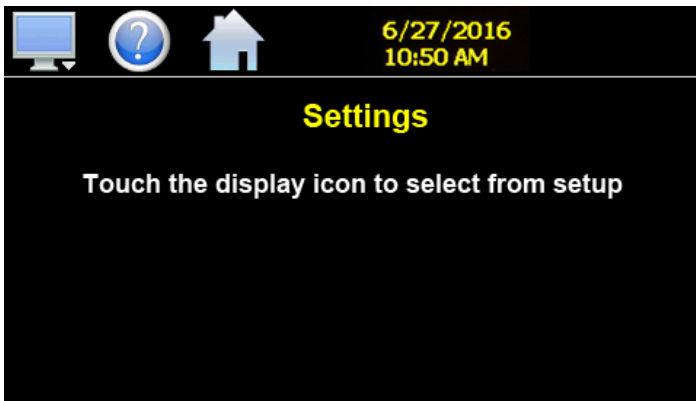

Fig. 49: Select Monitor (Display) Icon
- At the next screen, select MONITOR (display) icon (Fig. 49).
- At the next screen "OFFLINE Touch the display icon from setup" (Fig. 49) select the MONITOR (display) icon.